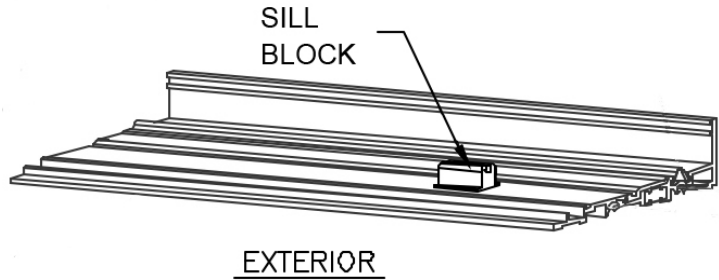

Figure 24:
1. Add 2” long sill block and secure with #8 x 3/4” long pan head self tapping screw to the bottom of sill as shown in Figure 24. Remove and set aside the screw that is provided with the sill block for step 3.